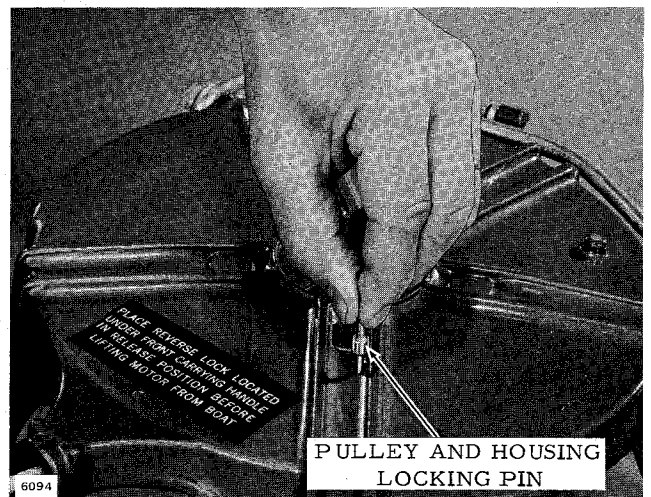

Figure 8-7. Pin Locking Pulley to Housing
- e. Wind pulley counterclockwise against spring tension until tight. Unwind pulley about one turn or until pin can be slipped through aligning holes in pulley and housing. Lock pulley to housing with pin. See Figure 8-7.